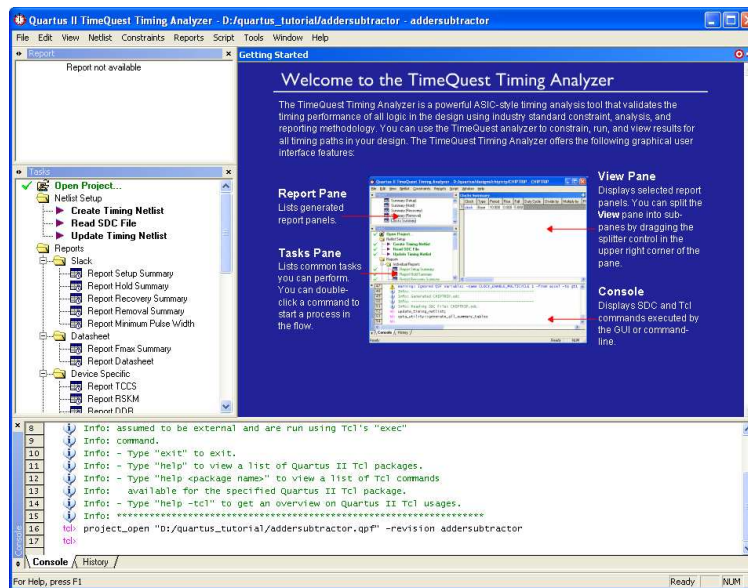
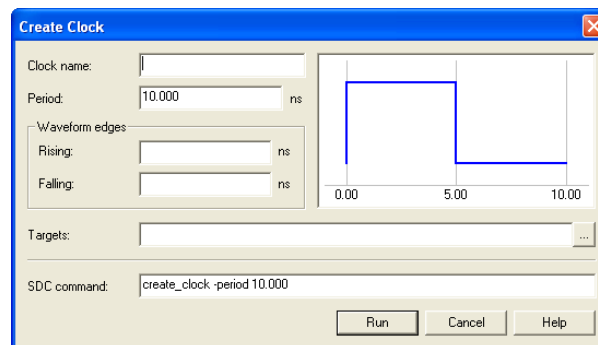
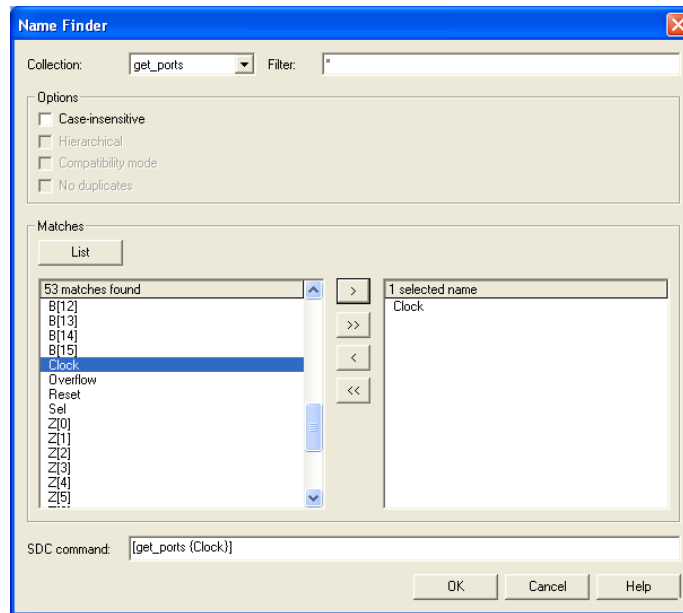
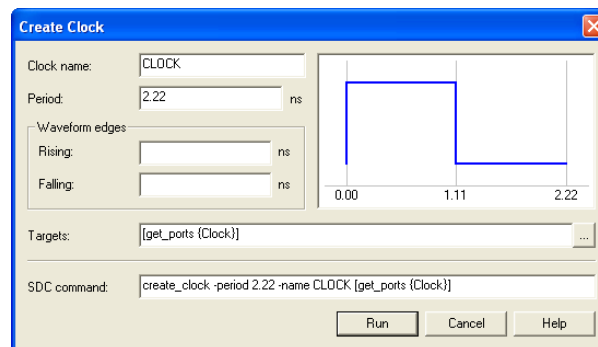

Figure 31: TimeQuest Timing Analyzer.
Figure 32: Create clock constraints.
Figure 33: Choose target clock.
Figure 34: Complete clock constraint.
1. Open TimeQuest Timing Analyzer by selecting Tools > TimeQuest Timing Analyzer, or by clicking the icon . Figure 31 shows the interface of TimeQuest Timing Analyzer. It is a very powerful tool for the designer to create, manage, and analyze timing constraints, and to quickly perform timing verification for their design. The compilation in Section 4 produced the f_{max} of 407.5 MHz, which translates to a minimum period of 2.4540ns. Suppose that we need a circuit that can operate at a clock frequency of 450 MHz. We can use the TimeQuest Timing Analyzer tool to create a new SDC (Synopsys Design Constraints) file containing the clock constraint.
In the TimeQuest Analyzer window, double click Create Timing Netlist under the Tasks heading to generate the timing netlist from database created after compilation. Then select Constraints > Create Clock from the menu to reach the dialog box in Figure 32. Specify a name for the clock you want to constrain. This name can be used to refer to this clock when creating other timing constraints. For this example, we will name the clock "CLOCK". As we want the circuit to operate at a clock frequency of 450 MHz, set the period to 2.22 ns in the Period field. To specify the actual clock this constraint is applied to, click on the ... button beside the Targets field in the Create Clock window to get the pop-up window in Figure 33.
Click on the list button in the middle left of the window to get a list of all the ports. Select **Clock** from the list of matches on the left and click on the **>** button to reach the display in Figure 33. This tells the TimeQuest Timing Analyzer to constrain the **Clock** port to the period you have specified. Notice in a larger design with many ports, we can enter the name of the port in the **Filter** field located in the top right of the window to reduce the number of matches in our search. Click **OK** to return to the dialog box in Figure 34.
In the SDC command field at the bottom of the dialog box in Figure 34, we can see the actual command that would be written into the SDC file. It creates a simple clock named **CLOCK** with a 2.22 ns period and associates this constraint with the port **Clock**. Click **Run** to return to the window in Figure 31. Select **Constraints > write SDC File** and save the file as *addersubtractor.out.sdc* in the project directory *quartus_tutorial*. Close the TimeQuest Timing Analyzer window to return to the Quartus® II main display.